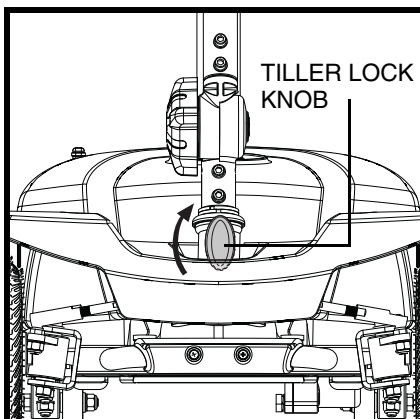

Figure 21. Tiller Lock knob (Locked)
2. Lock the tiller in the straight ahead position by pushing the tiller lock knob in and turning it clockwise 90°. See figure 21. The front wheel must face forward in order to lock the tiller.